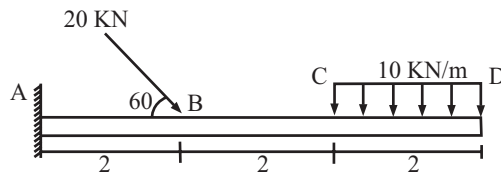

Fig 8
Q.8. A cantilever is shown in fig 8. Draw the BMD and SFD.